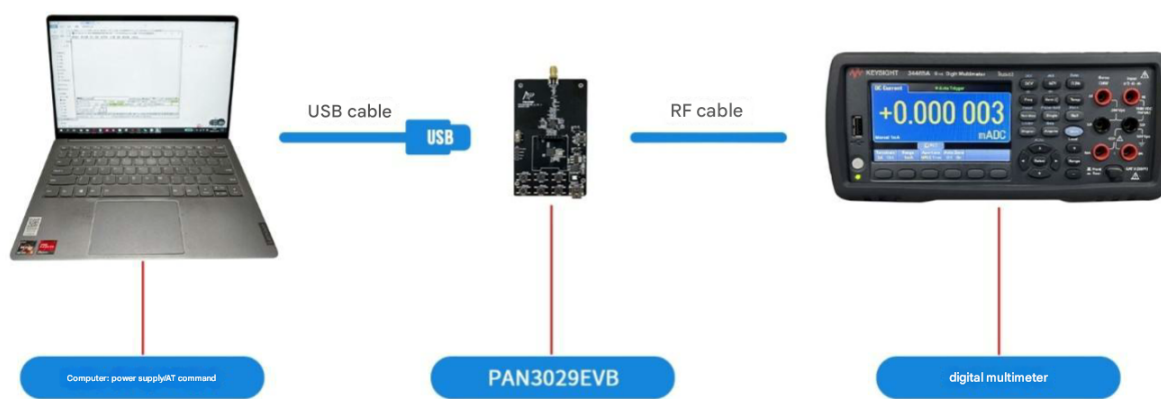

Figure 3-10 Low power consumption current test environment
As shown in Figure 3-10.
1. Set up the environment according to Figure 3-10;